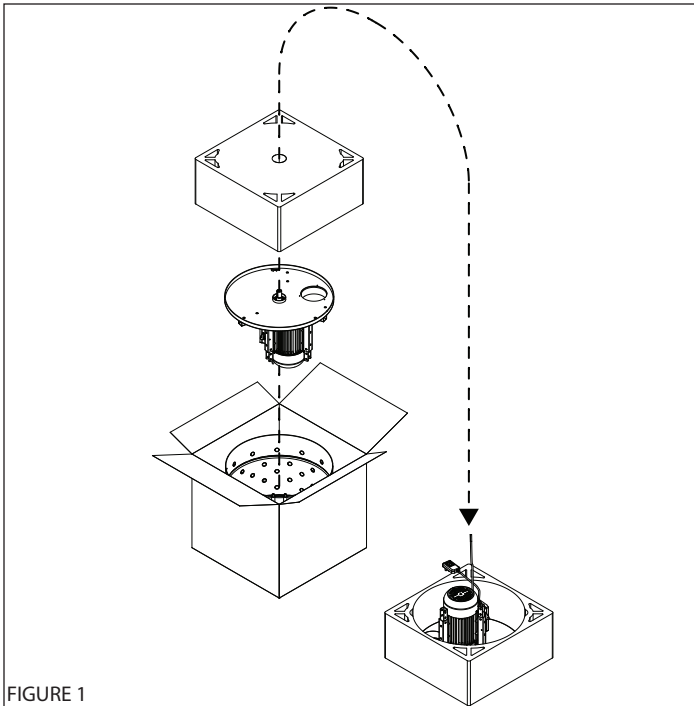
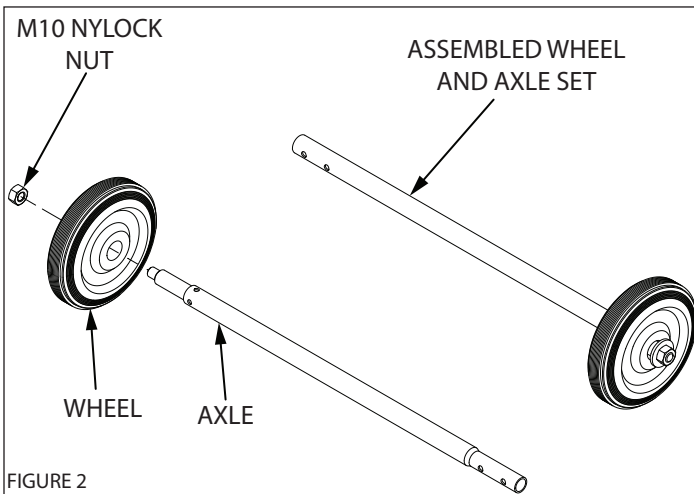

FIGURE 1
FIGURE 2
1. Open top of carton and remove the Styrofoam inner pack with the hole in the middle. (**SEE FIGURE 1**)
- Axle (2)
- Long Legs (2)
- Wheel (2)
- Bolt M8 x 1.25 x 45 (6)
- Bolt M8 x 1.25 x 20 **LEFT HAND THREAD** (1)
- Bolt M6 x 1.0 x 30 (2)
- Washer M8 x 30 Domed (1)
- Nut M6 x 1.0 Nylock (2)
- Nut M10 Nylock (2)
- Nut M8 Nylock (6)
4. Assemble wheel to axle (**SEE FIGURE 2**). For each axle component: